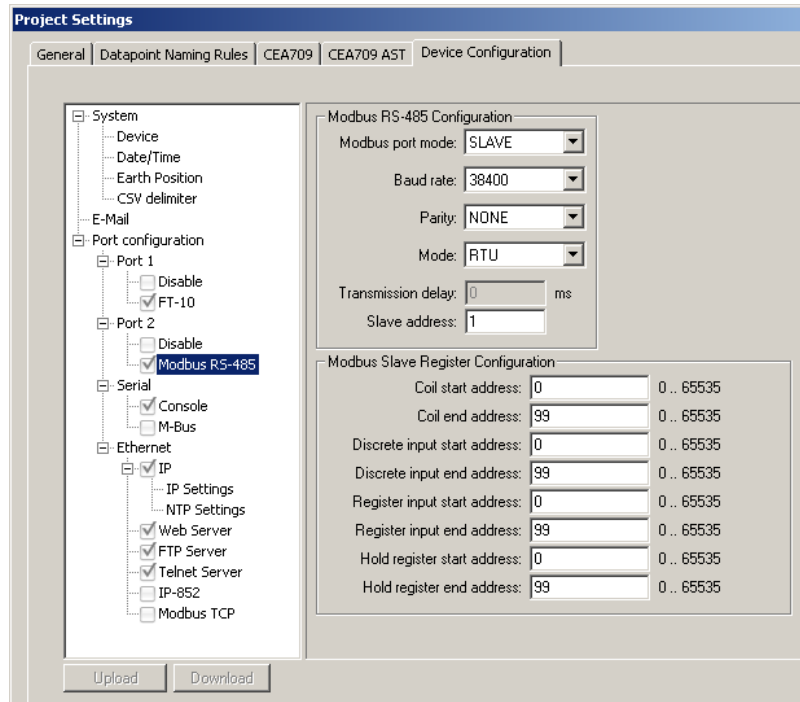

Figure 145: Project settings for Modbus.
2. In the **Device Config** tab enable the Modbus check boxes on the desired ports as shown in Figure 145. Setting the check box enables Modbus on that port. Edit the Modbus communication settings.